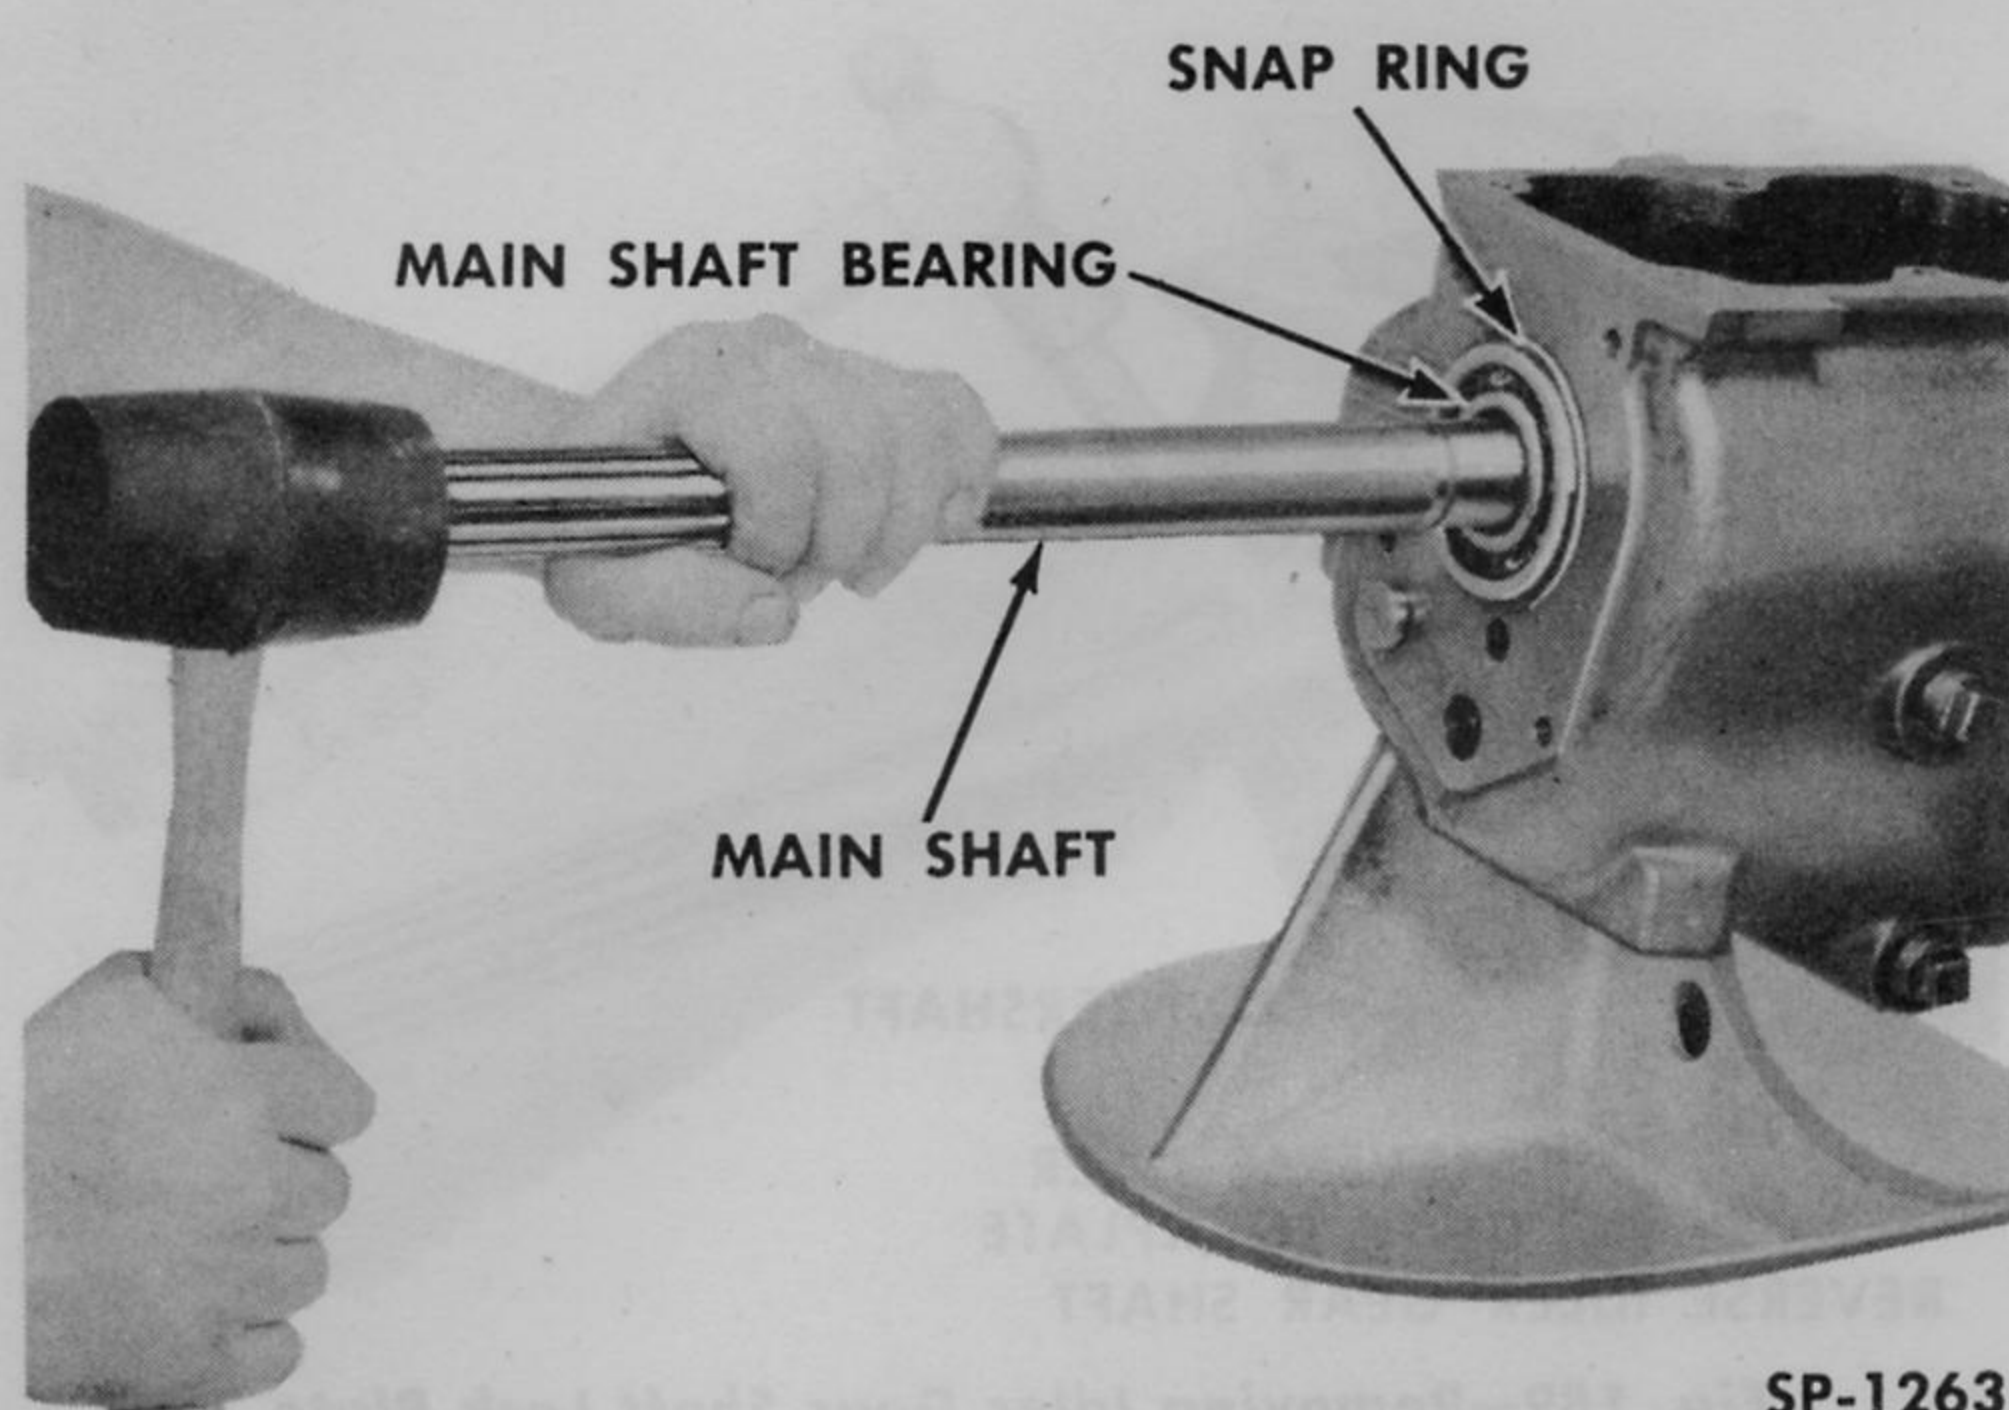
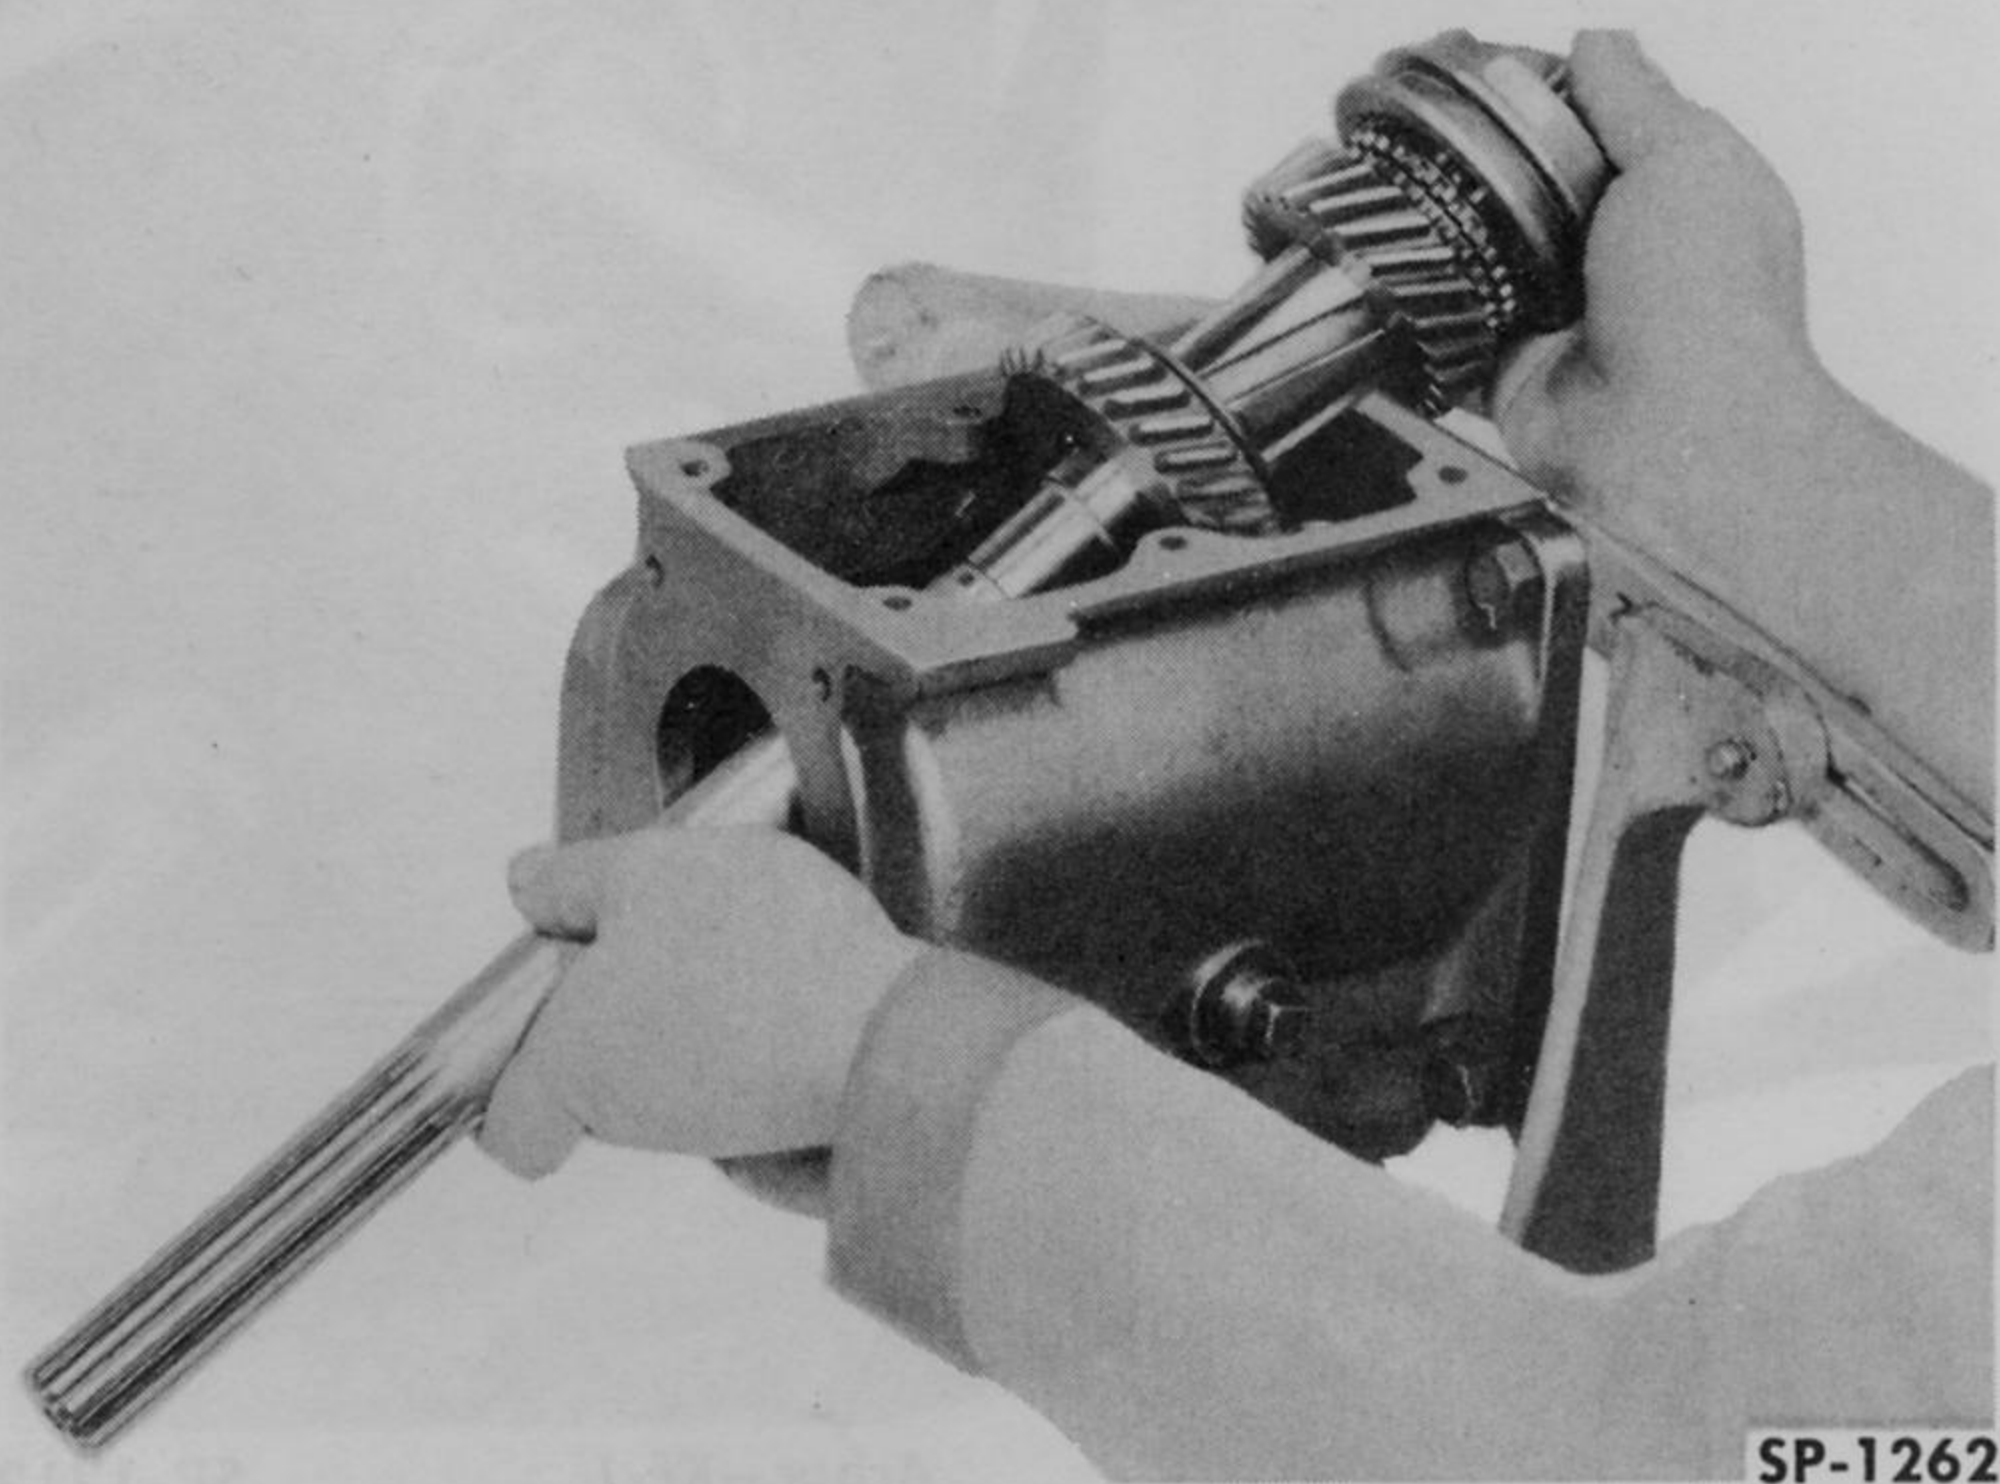

Fig. 191—Removing Mainshaft From Rear Bearing
Fig. 192—Removing Mainshaft Assembly From Case
8. Remove the snap ring, speedometer drive gear and woodruff key from the rear of the mainshaft. Tap the rear end of the mainshaft lightly with a soft hammer (Fig. 191) until it is free of the rear bearing. Remove the bearing from the case. Cock the mainshaft assembly away from the shifting fork and shifting shoe as far as possible and remove the shifting fork and the shoe. Lift out the shaft assembly through the top of the case (Fig. 192).